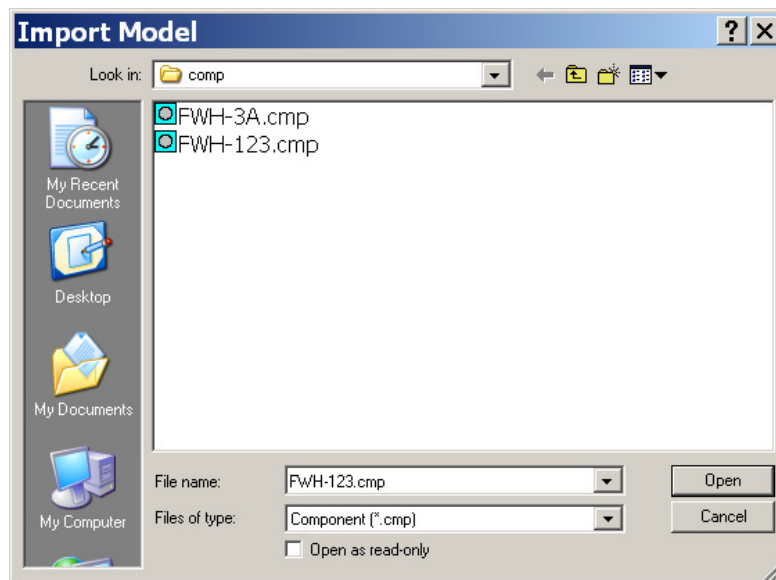

Figure 5. Import Model Dialog
- o **File | Import** displays the **Import Model** dialog shown in Figure 5. Simply select the desired component file from those listed and click the **Open** button. Alternatively, you may simply double-click a file name as with any other Windows program. The *cmp* file you open is displayed and replaces the *project.cmp* file in the currently open project. This is handy when you want to share a common *cmp* file between two or more projects.